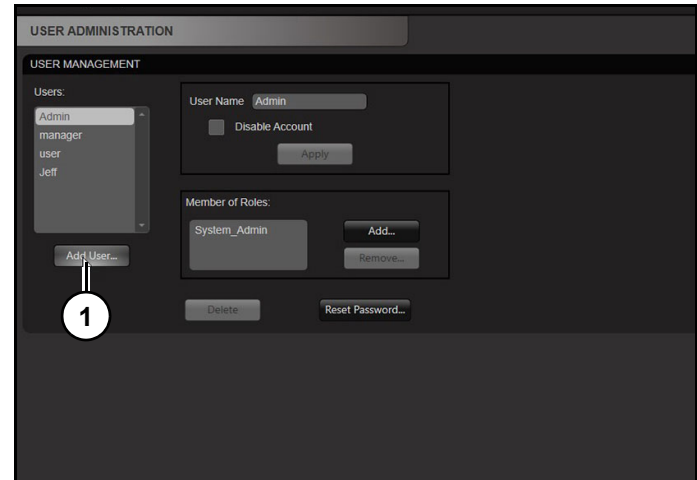

Figure 58
1. Click "Add User" (1) (Figure 58).